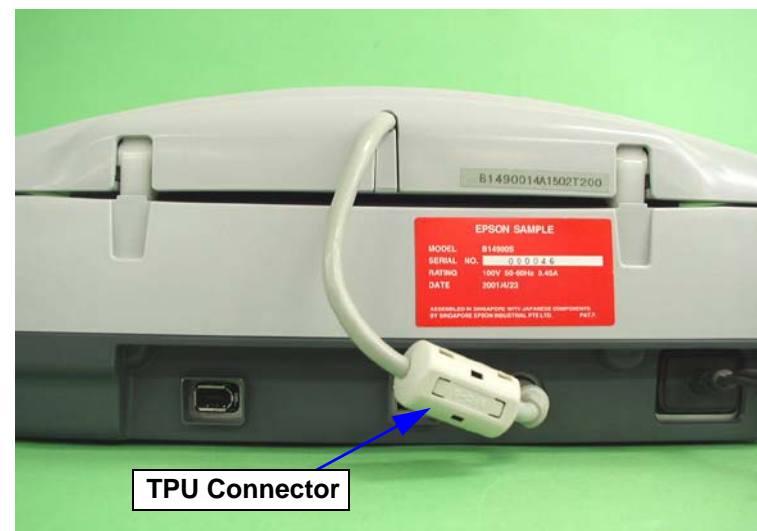

Figure 4-4. Document Cover Removal (1)
1. Disconnect the TPU connector at the back of the scanner. (See Figure 4-4)